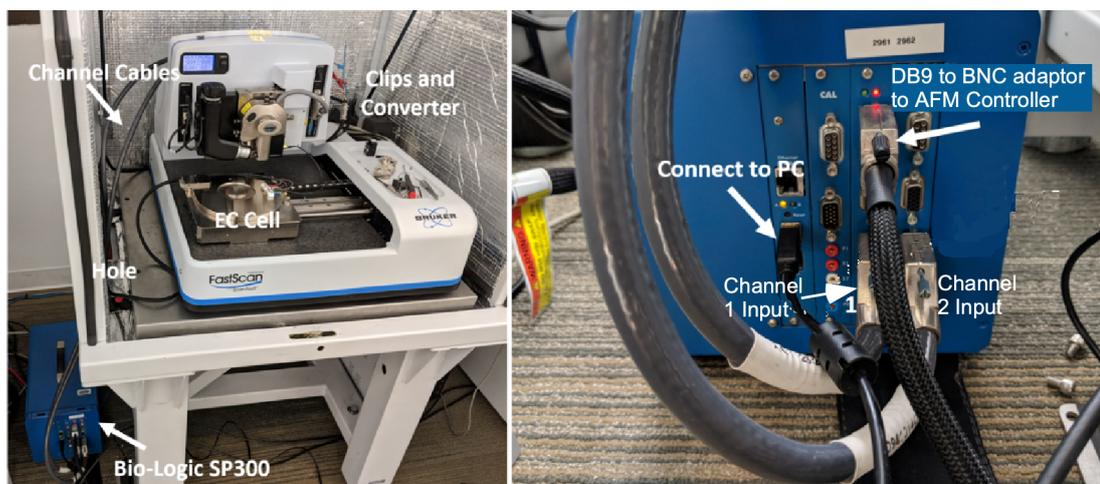
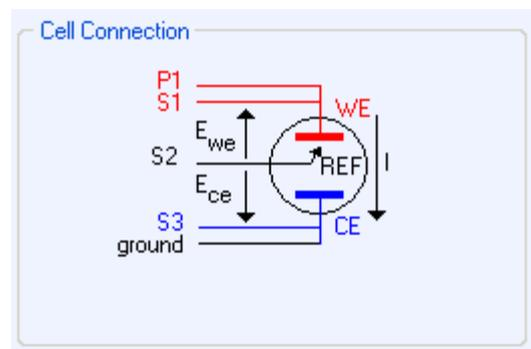

Figure 3. Hardware configuration between the Bio-Logic SP-300 potentiostat and the Dimension Icon AFM
Figure 4. CE to ground connection mode for using SP-300 as bi-potentiostat.
- during measurement to reduce the noise level of the gained current signal; (Figure 3)
2. For the use of the Bio-Logic as a bipotentiostat you **must** configure the instrument to use the counter electrode (CE) as ground (CE to Ground) configuration. To do this:
- a) In the **ECLab Express** software under Hardware configuration choose CE to Ground or in “Advanced Settings”, select the “CE-to-Ground” option, Figure 4
- c) Connect the P1 and S1 (red) leads to the working electrode, Figure 4.
4. The output of the SP-300 Bio-Logic can be connected to the AFM controller by use of the female DB9 connectors on the SP-300, Figure 3. Use the Bio-Logic DB9 to multi-BNC converter. Two of the outputs from the converter are labeled E and I. Note that the E and I outputs have the opposite polarity to the measured values i.e., if the analog output -2V, it is actually +2V at the cell (see ECLab Express Installation and Configuration manual).